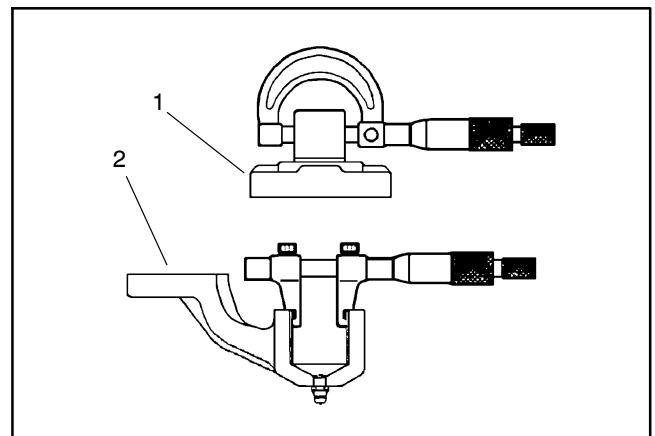

Figure 24
1. Measure the knuckle pin O.D. and the axle case support bushing I.D. to determine the bushing to pin clearance (Fig. 24). Replace components as necessary.